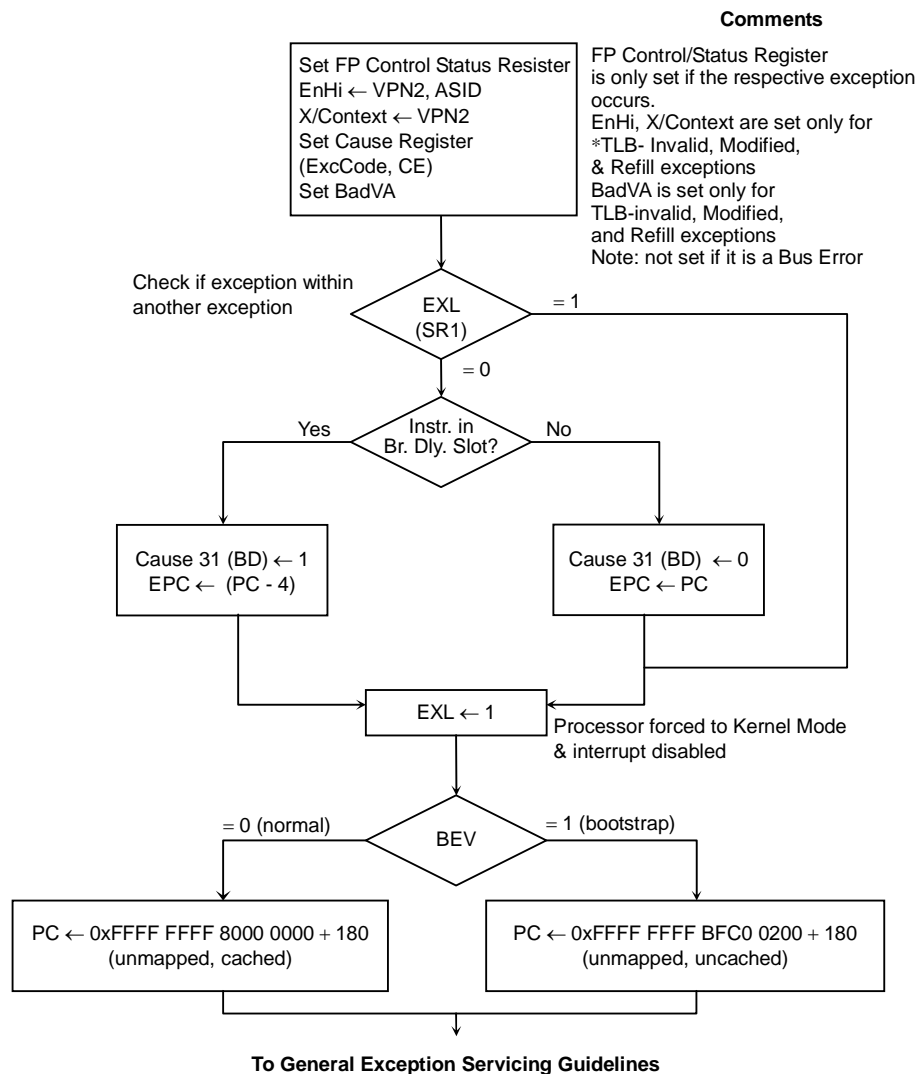

Figure 8.20.1 General Exception Handler (HW)
- Figure 8.20.1 shows general exception handler (HW)